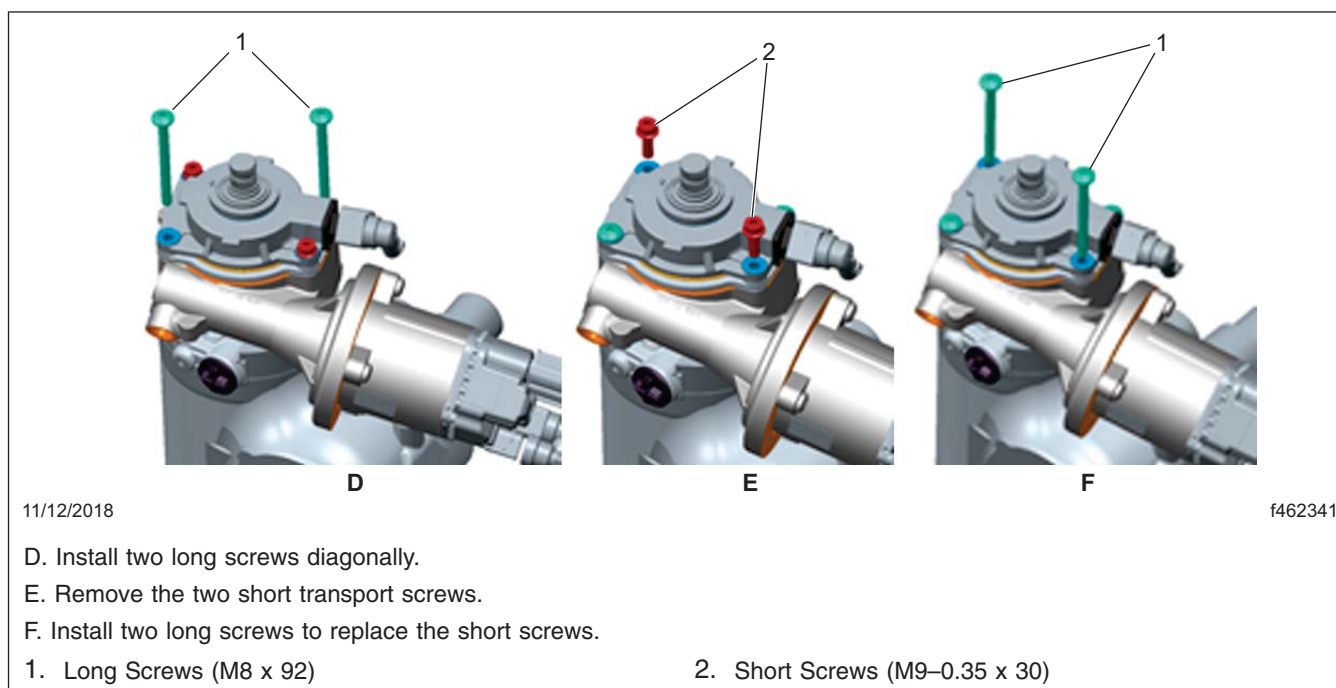

Fig. 2, Installing the Servo Drive Assembly
11. Install screws (M8 x 92) in the two available holes (see **Fig. 2**, Ref. D). Tighten the screws 18 lbf-ft (24 N·m).
12. Remove both short transport screws (see **Fig. 2**, Ref. E).
13. Install the remaining two longer M8 x 92 screws in the two holes to replace the short screws (see **Fig. 2**, Ref. F). Tighten the screws 18 lbf-ft (24 N·m).